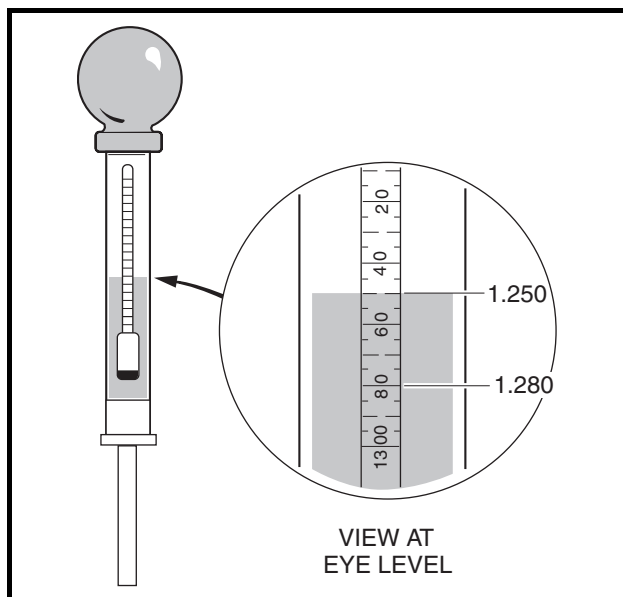

Figure 11-22 Hydrometer Test
A hydrometer (CCI P/N 1011478) measures the specific gravity. The higher the specific gravity, the higher the state of charge of the battery. A fully charged battery should read between 1.250 and 1.280 at 80 °F (27 °C). Never add acid to the battery to obtain a higher specific gravity (**Figure 11-22, Page 11-21**).
6. Hold the hydrometer vertically, ensuring that the float is not contacting the sides of the glass tube. Hold the hydrometer at eye level and read the scale at the level of electrolyte (**Figure 11-22, Page 11-21**).